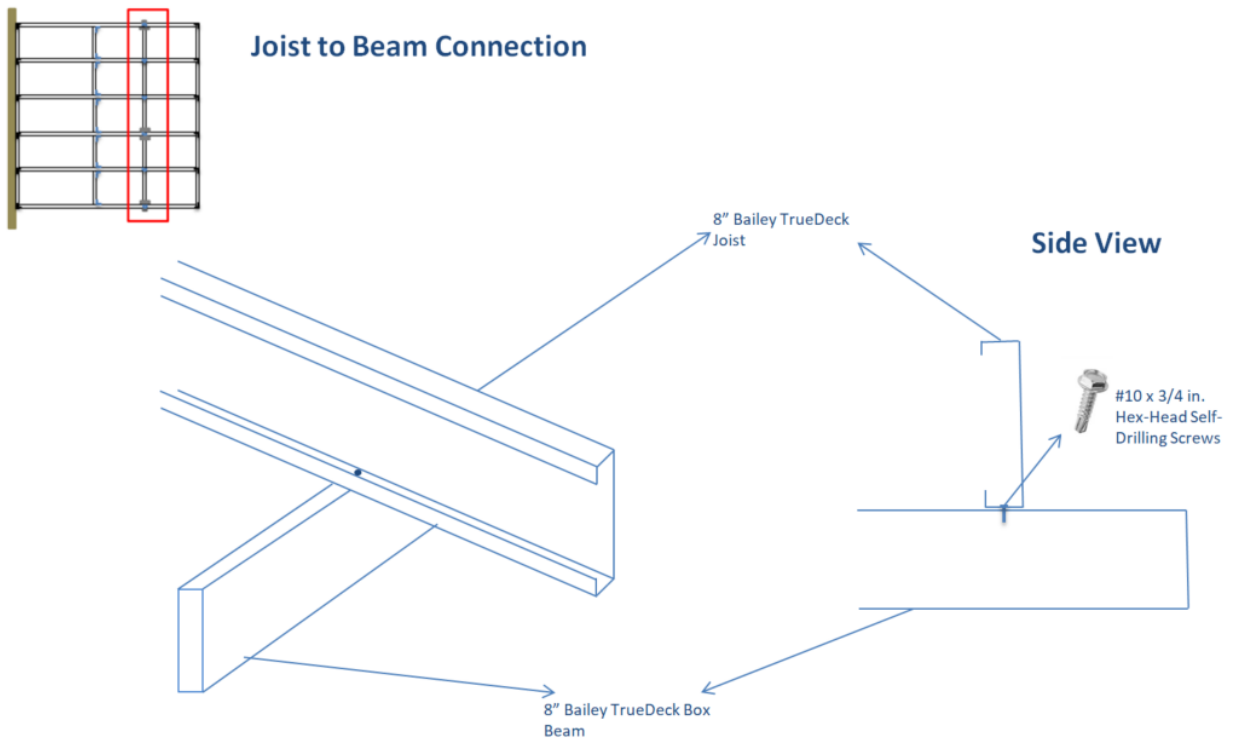

Figure 19
5. **Joist and Box Beam Connection:** After connecting joist to ledger/rim track, the next steps requires the connection between joist and the box beam. This is achieved by fastening the joist and beam using #10 x 3/4 in. Hex-Head Self-Drilling Screws at the point of interaction. Refer to Figure 19 for connection details.